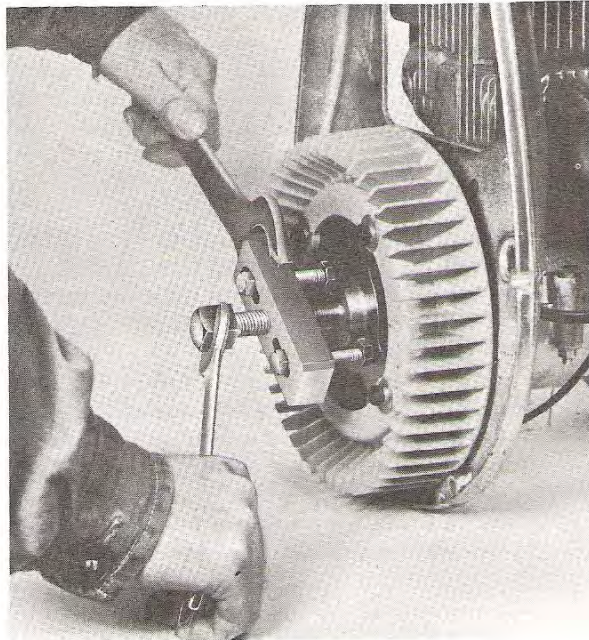

Figure 2
- e. Remove the flywheel assembly and fan (figure 2).